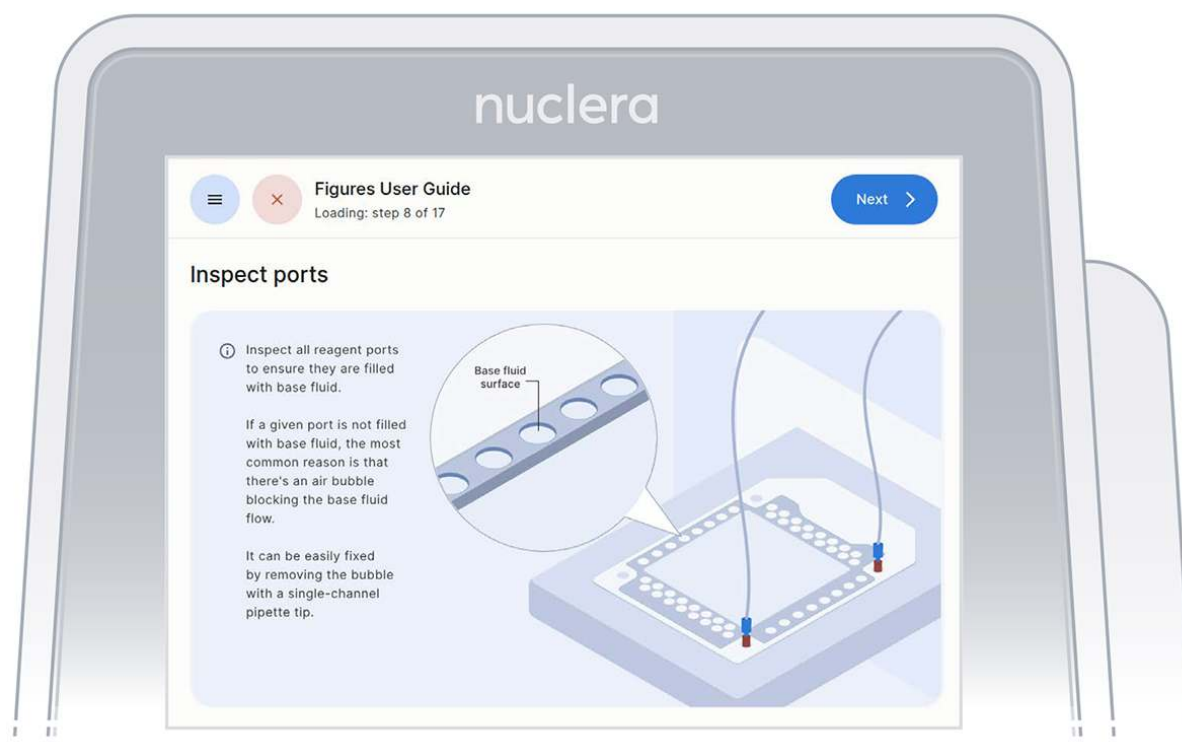

Figure 18: Procedure to remove potential air bubbles from the cartridge
4. Inspect the ports on the cartridge after the priming with base fluid is complete. Ensure all the ports are filled and press the **[Next]** button (Figure 18).